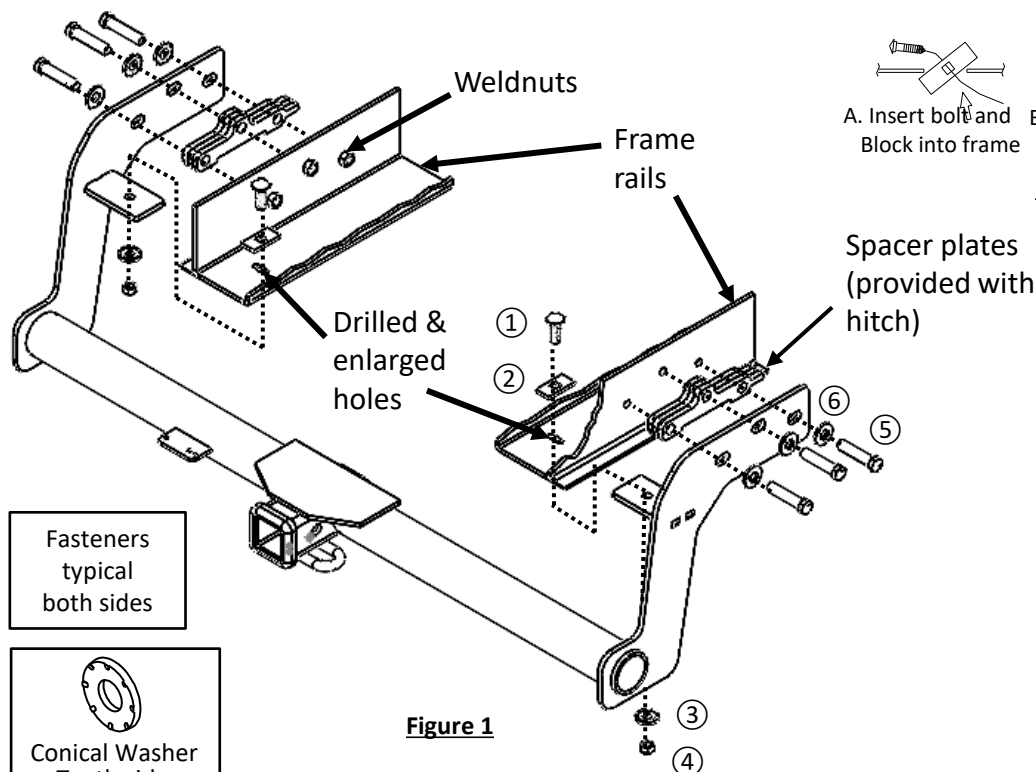
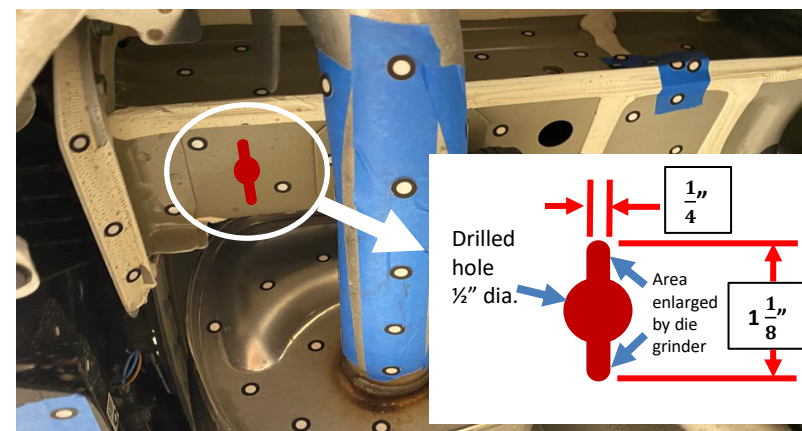

Figure 1
Figure 2
- Lower exhaust**– Using a flat head screwdriver remove (6) plastic rivets from the bottom of fascia on passenger side and repeat that for driver side. Using an exhaust hanger removal plier, remove (1) rearmost rubber hangers, per side. A spray of lubricant or soapy water on rubber hangers makes them slide off metal pins more easily. Lower the exhaust mufflers by gently pulling the lower fascia. **NOTE: Be sure that exhaust is properly supported before removing rubber hangers.**
- Drill & enlarge holes** – Remove the stickers from weldnut holes on the frame rail if present. Using wire brush to clean the weldnuts if needed. Raise the hitch into position with spacer plates and temporarily secure the hitch with all M12 bolts ⑤. Use marker to mark a drill point at bottom frame rails based on hitch bracket hole center, both sides, see **Figure 1**. Make sure the hitch sits straight with location when marked. Lower the hitch down and use drill to drill a 1/2" hole at marked location, per side. Use a die grinder to enlarge the holes to feed block ② into vehicle frame rails, both side, as shown in **Figure 2**.
- Install hitch** – Feed the carriage bolts ① and blocks ② through drilled holes using the pull wires ⑦, pull the bolts through blocks, see **Figures 1 & 3**. Leave pull wires attached. Raise the hitch into position and feed the pull wires through bracket bottom holes. Loosely install spacer plates, conical washers ⑥ and bolts ⑤ to the hitch, then remove the pull wires and loosely install the conical washers ③ and nuts ④ to the carriage bolts ①.
2. Drill & enlarge holes – Remove the stickers from weldnut holes on the frame rail if present. Using wire brush to clean the weldnuts if needed. Raise the hitch into position with spacer plates and temporarily secure the hitch with all M12 bolts (5). Use marker to mark a drill point at bottom frame rails based on hitch bracket hole center, both sides, see **Figure 1**. Make sure the hitch sits straight with location when marked. Lower the hitch down and use drill to drill a 1/2" hole at marked location, per side. Use a die grinder to enlarge the holes to feed block (2) into vehicle frame rails, both side, as shown in **Figure 2**.